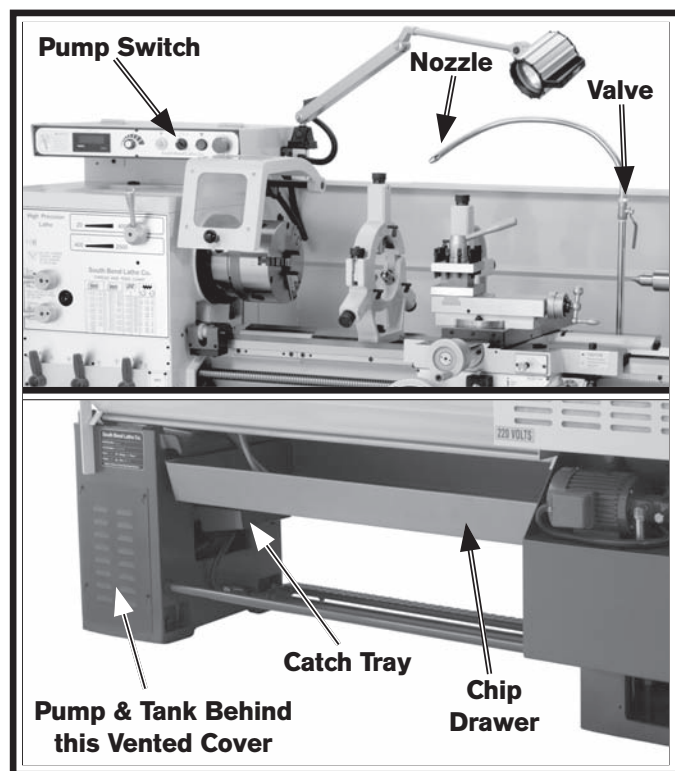
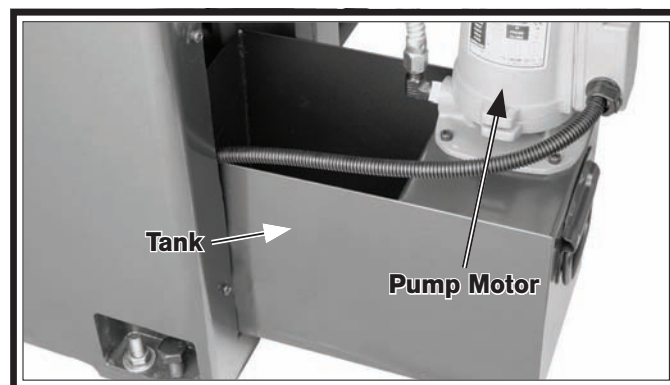

Figure 122. Cutting fluid system components and locations.
Figure 123. Cutting fluid pump and tank.
The cutting fluid system consists of a fluid tank, pump, and flexible nozzle. The pump pulls fluid from the tank and sends it to the valve, which controls the flow of cutting fluid to the work area. When the valve is opened or closed, the fluid comes out of the nozzle and drains through the chip drawer and into the catch tray and then into the tank where it is picked up again by the pump. **Figure 122** shows many of these components and their locations.
2. Remove the vented cover and slide the tank out, as shown in **Figure 123**.
5. Remove the vented cover shown in **Figure 122** and slide the tank half way out of the base, as shown in **Figure 123**.